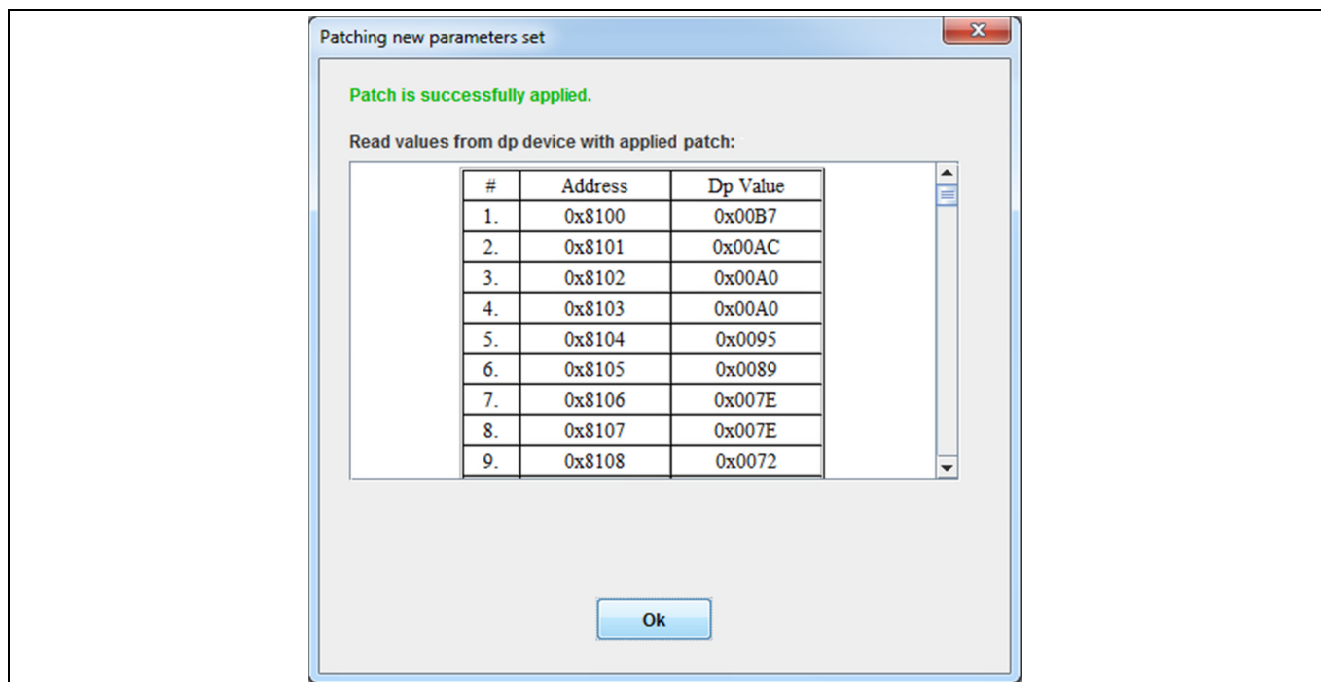

Figure 50 List of Parameter Values with Applied Patch/Patches
4. Press “Continue patching”. After this action, the user will be informed that the patching was successful – see Figure 50. A list of parameters can also be seen in the same window, including the parameters that were patched in the previous step.